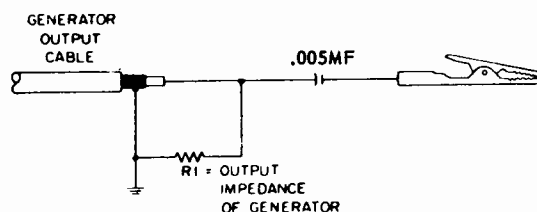

Figure 7 - Generator cable termination.
**Generators** — Except where otherwise noted, all signal generating equipment should be terminated as shown in Figure 7. Connect the signal cable ground near the ground of the stage where the signal is injected.